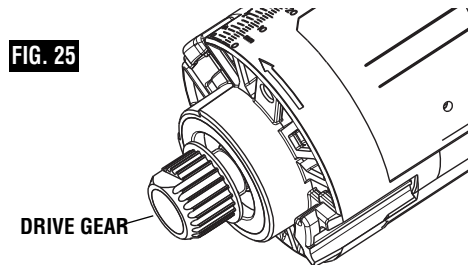

FIG. 25
1. Remove collet from motor and install toothed drive pulley using collet wrench. Make sure that drive gear is fully tightened onto the motor's spindle. (Fig. 25)